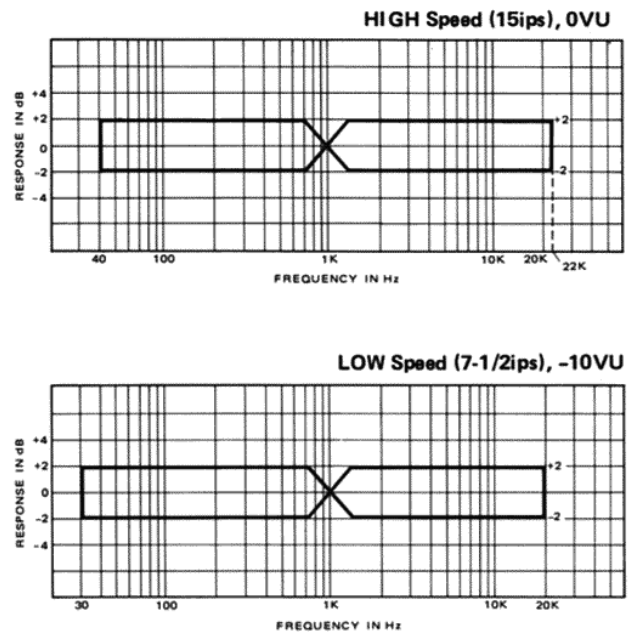

Figure 6-6. Overall Frequency Response
4. Load a blank tape, enter Record mode and sweep the input signal frequency over the range 40 Hz to 22 kHz. While doing so, watch the voltmeter and check that the frequency response is within the tolerance specified in Figure 6-6.
8. Put the deck into record mode and sweep the input signal frequency over the range 30 Hz to 20 kHz. Rewind the tape, play the recording, watch the voltmeter and check that the frequency response is within the tolerance specified in Figure 6-6.